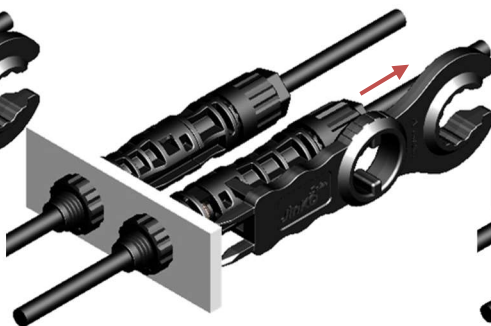

Figure 24
- ✧ 拉拔电缆连接器, 即可分开公母连接器 (如图 24&25)。
Pull the cable connector by hand respectively. The connector can now be separated (Fig. 24 &25).